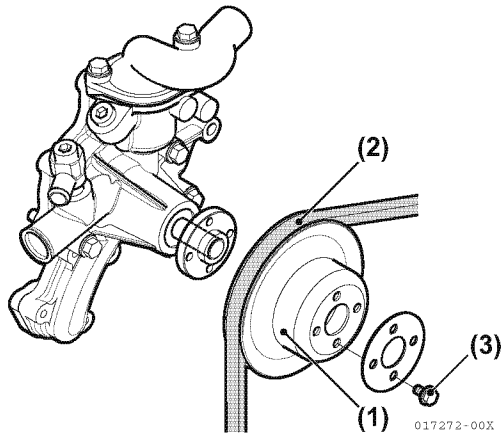

Figure 6-51
13. Reinstall the coolant pump V-pulley spacer (**Figure 6-51, (1)**).
14. Reinstall the cooling pump V-belt (**Figure 6-51, (2)**). See *Replacing Coolant Pump Belt and Pulley* on page 7-18.